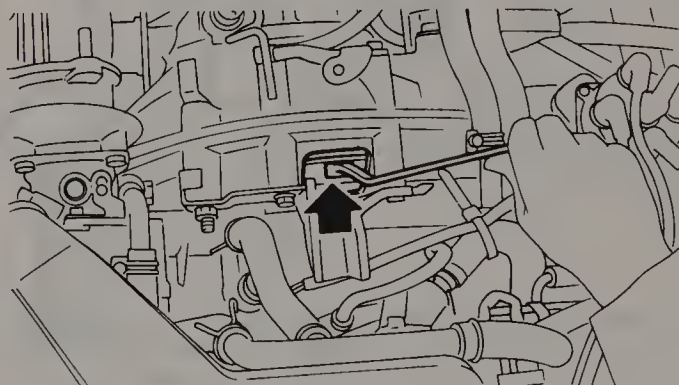

Fig. 13.10 Disconnect the torque converter from the driveplate through the timing mark hole in the bellhousing (Sec 5)
- 26 If equipped with an automatic transmission, remove the timing hole plug and remove the four bolts that hold the torque converter to the driveplate (Fig. 13.10). The crankshaft must be turned to bring each of the bolts into position.